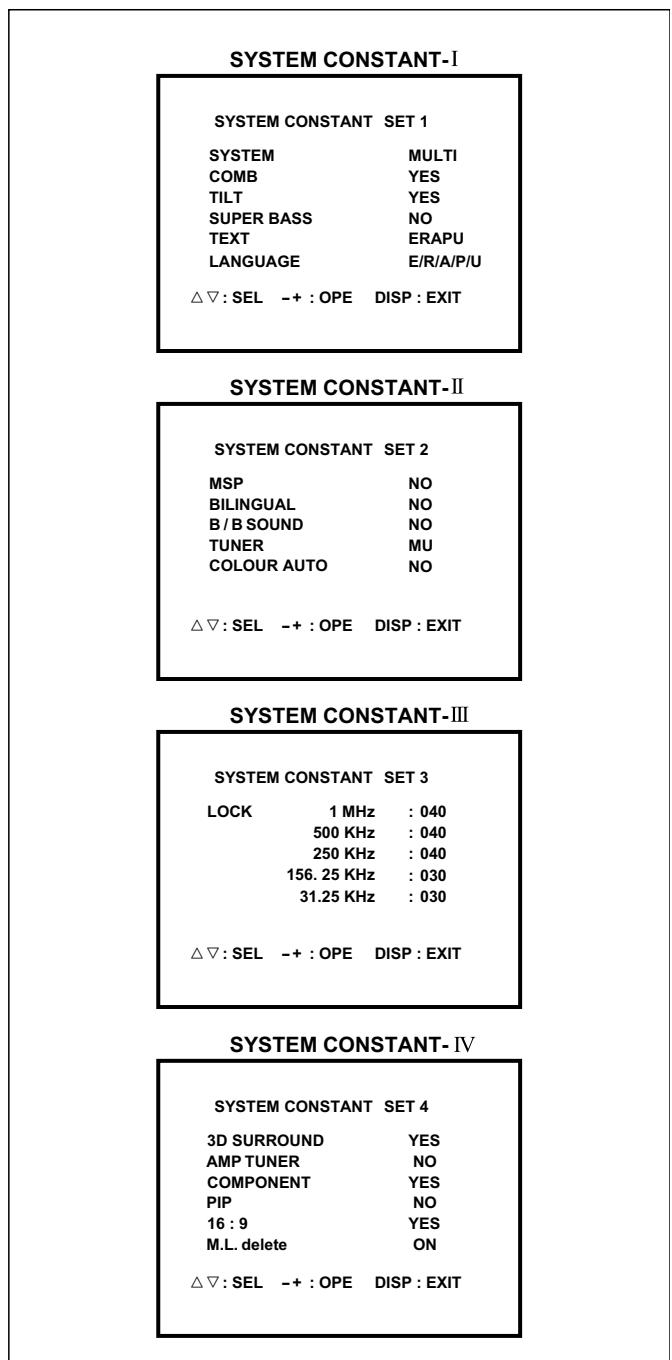

Fig. 2
- (1) While pushing down the 2 claws [E] as shown in Fig. 2 and pull out the CONTROL BASE in the direction of arrow [F] as shown in Fig. 2, the control base can be removed.
- (2) In the SERVICE MENU, press the [DISPLAY] key and [PICTURE MODE] key simultaneously. Then, the SYSTEM CONSTANT SET screen will be displayed.(See Fig.2.)
- (3) Check whether the setting values of the SYSTEM CONSTANT SET are the same as those indicated in Table1. If the value is different, select the setting item with the MENU \triangle / ∇ key, and set the correct value with the MENU \langle / \rangle key.
- (4) Press the [DISPLAY] key twice to return to the normal screen.